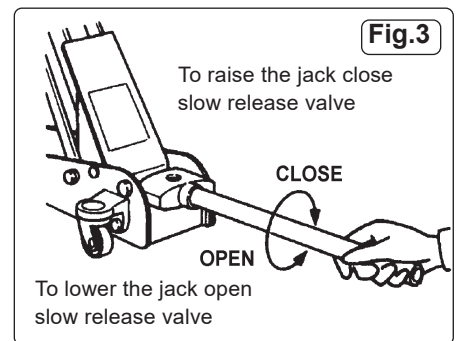

Fig.3
- 6.2.4. Turn the release valve clockwise, to the closed position (fig.3).